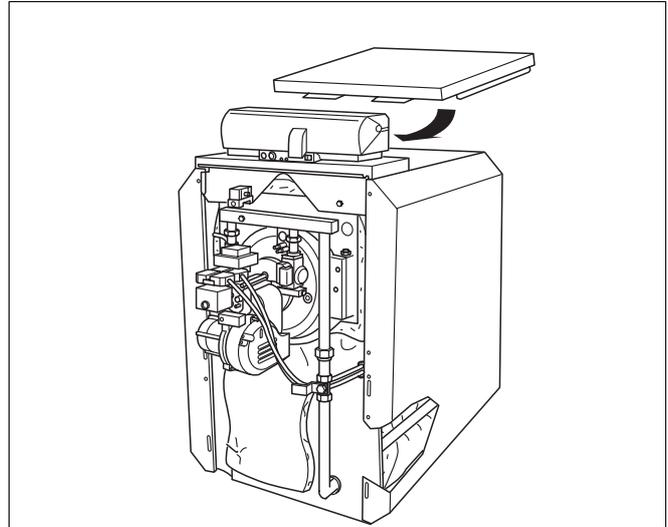

Fig. 24 Install the boiler casing
You may route the gas supply pipe to the burner through the r.h. and l.h. holes at the bottom of the front boiler panel and the rear boiler panel, see Fig. 24, page 22.
- Loosely locate the rear boiler cover sections in accordance with Fig. 24 on the r.h. and l.h. side panel.